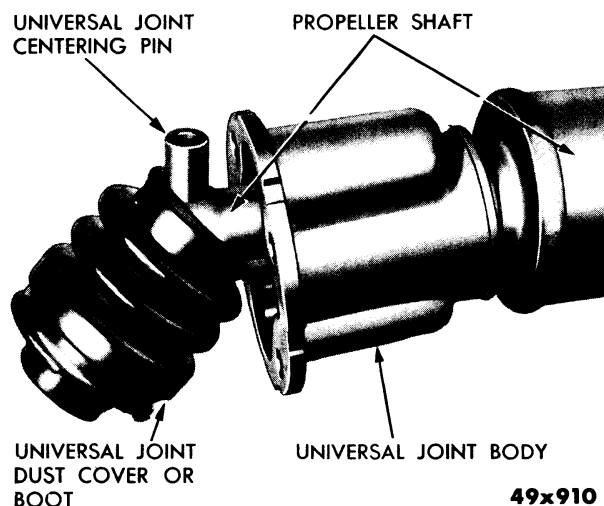

Fig. 5—Sliding Cover over Ball Head and Pin
- (1) Disassemble joint, removing all parts except the body and pin.
- (2) Clean body, ball head, and pin thoroughly.
- (3) A complete coating of grease (or suitable rubber lubricant) must be smeared on the outside and inside of dust cover, entire surface of the ball head, pin, and inside of body. **(It is very important that this instruction be followed.)**
- (4) Stretch the grease-soaked boot or dust cover over the pin and ball head as shown in Figure 5.
- (5) Work the dust cover into the body as far as possible.